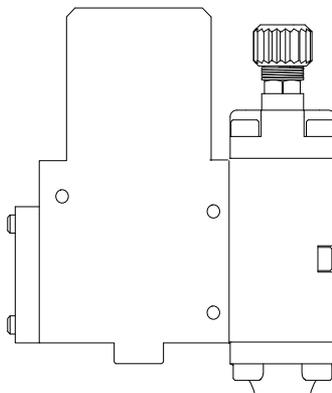

Figure 25: AG-900+/AG900+S Applicator
2. Relieve pressure to the applicator. See Figure 25.. Disconnect the material supply hose from the hose connection, then remove the three M5 socket head screws. Remove the applicator assembly from the bracket.